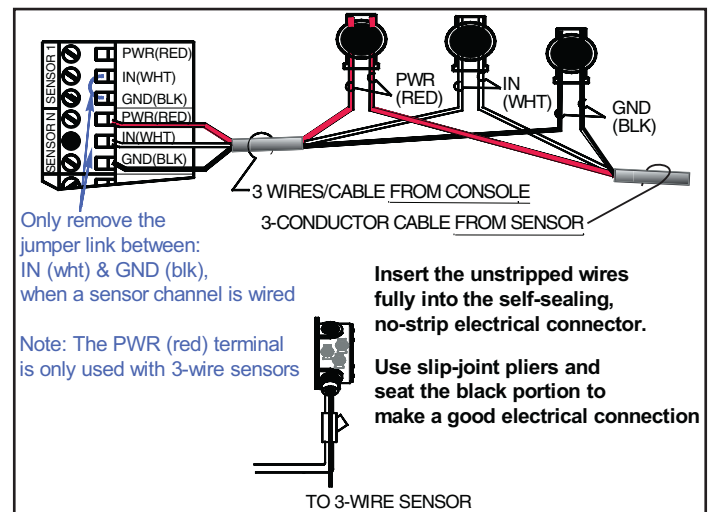

Figure 3: Sensor Wiring
6. Trim wire/cables at the junction box to a 6 or 8 inch length (15 or 20 cm) or service-loop, and splice the sensor and console wires together per Figure 3.
Reference the ATG Installation Manual and see Figure 3 (above) for TSP-MWS sensor wiring details.